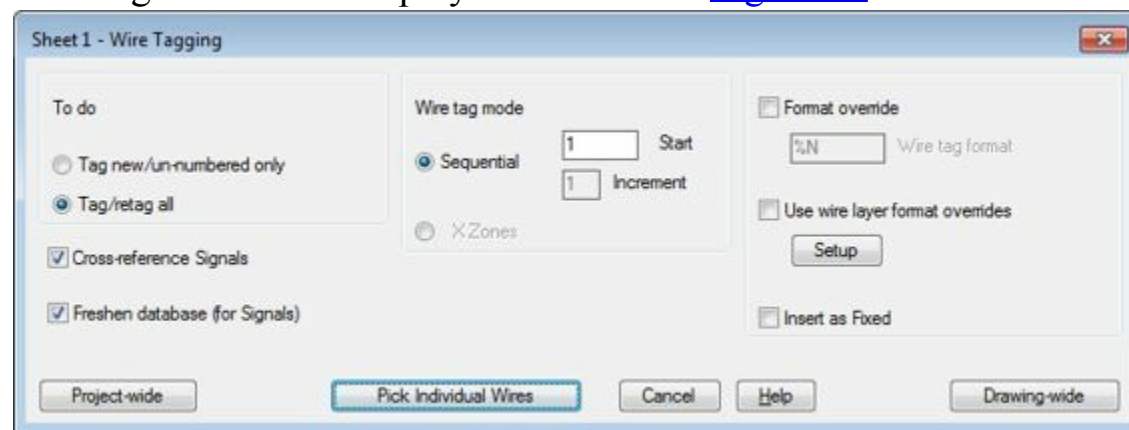

Figure-24. Sheet1 Wire Tagging dialog box
- Click on the **Wire Numbers** tool from the **Wire Numbers** drop-down. The **Sheet1 - Wire Tagging** dialog box will be displayed as shown in Figure-24.